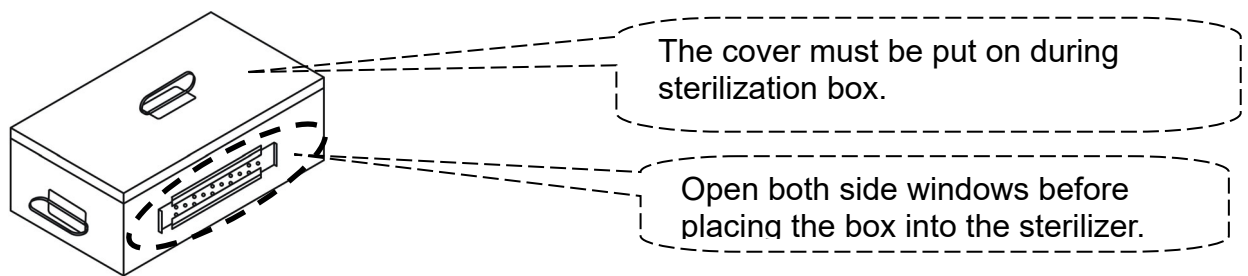

Figure 14
- D. Place the items to be sterilized and the sterilization indicator strips into the box as required. Remember to open both side windows before placing the box into the sterilizer as Figure 14.